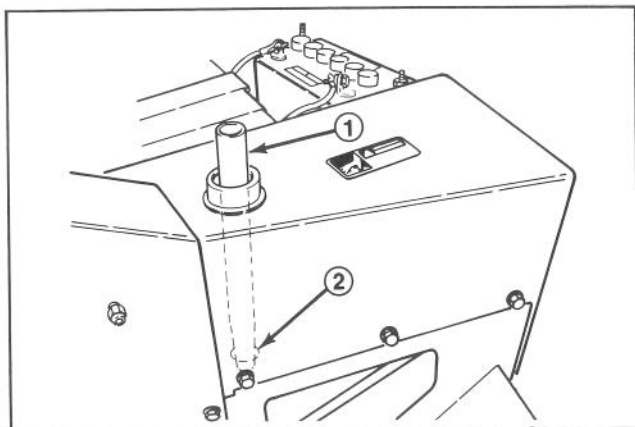

Figure 35
2. If only the filter is to be changed, remove reservoir cap and insert reservoir plug (Fig. 35), to block outlet.